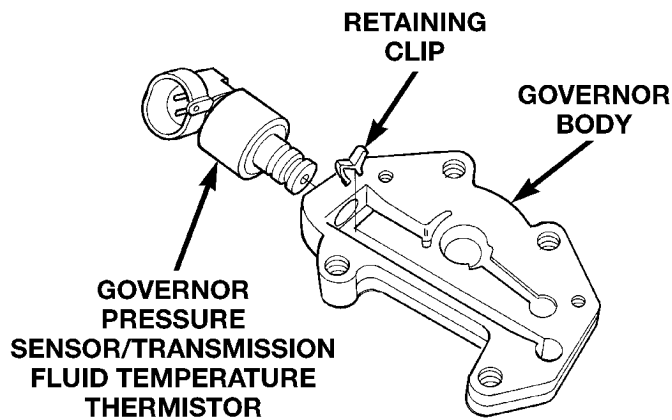

Fig. 95 Governor Pressure Sensor
(1) Turn valve body assembly over so accumulator side of transfer plate is facing down.
(2) Install new O-rings on governor pressure solenoid and sensor (Fig. 95).
(3) Lubricate solenoid and sensor O-rings with clean transmission fluid.
(4) Install governor pressure sensor in governor body. Then secure sensor with M-shaped retaining clip (Fig. 95).